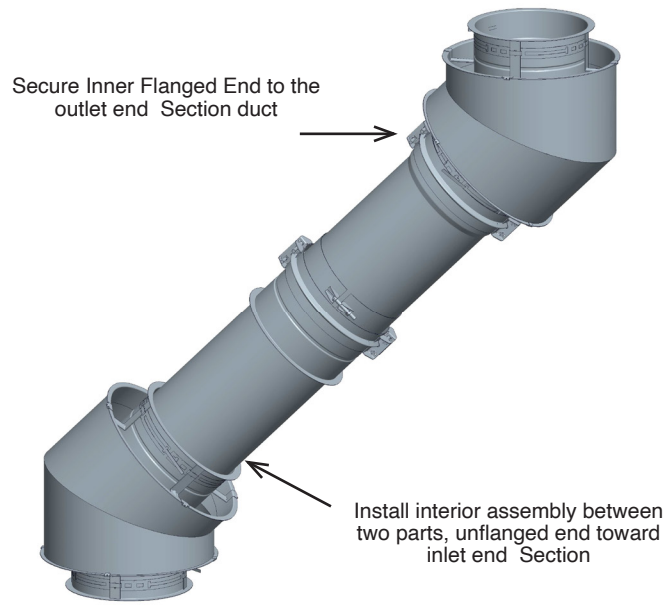

Figure 25 - Step 5-6 - Install the inner LV and secure the outlet end Flange
6. Assemble the outlet end sliding inner wall to the outlet end section as a regular section (See JOINT ASSEMBLY section). See Figure 25.